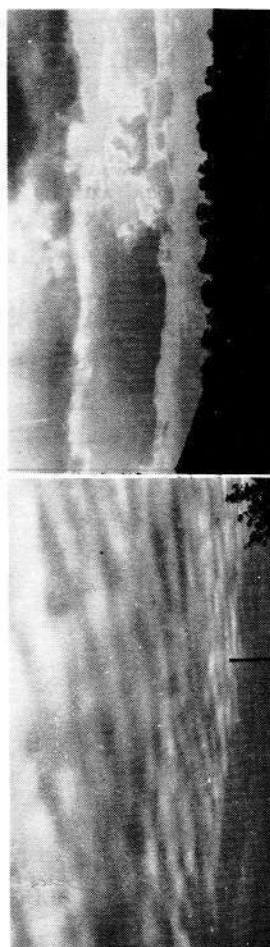

Fig. 182
1. **Cirrus.** Very high. Detached, delicate and fibrous formation, white in colour with no shadow. (Fig. 182).